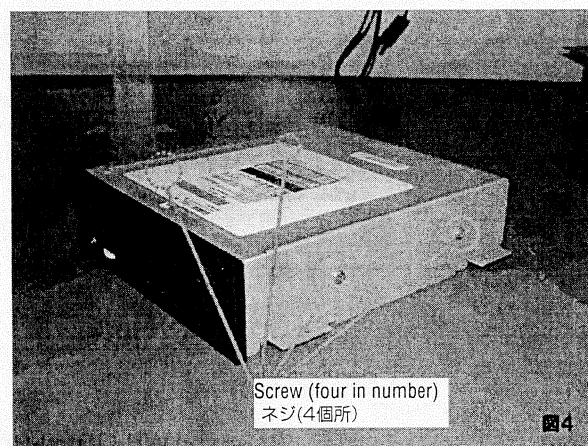
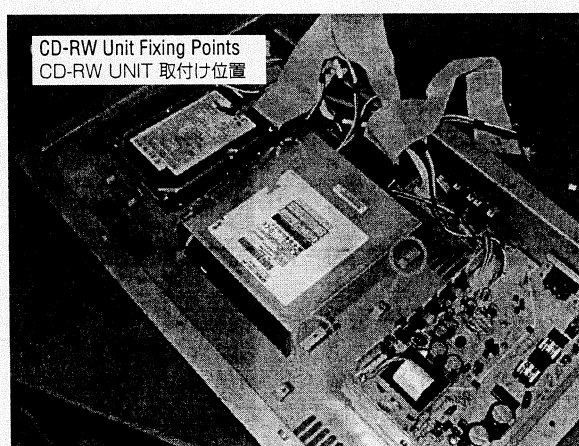

Figure 4 / 図4
Figure 5 / 図5
- [2] Remove the CD-RW drive from the bracket. (Screw locations shown in Figure 4)
- [2] CD-RWドライブをBRACKETから取外して下さい。(ネジ位置：図4参照)
- [1] Mount the CD-RW drive set as Slave to the bracket. (Screw locations shown in Figure 4 and fixing points in Figure 5)
- [1] 設定確認後、CD-RW DRIVEをBRACKETに取付けて下さい。(ネジ位置：図4参照、固定位置：図5参照)